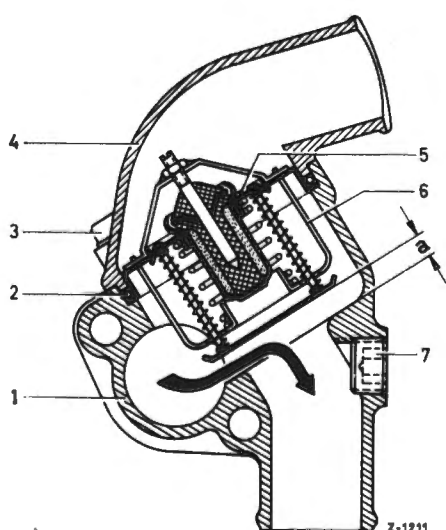

Fig. 20-6/1
On Models 190 c, 220 b, 220 Sb and 220 SEb the cooling water thermostat consists of a cast light-metal housing which is screwed directly to the cylinder head with a gasket, and a thermostat element (6) (wax thermostat). On Model 300 SE the housing of the cooling water thermostat is combined with the cooling water outlet connection. The cooling water thermostat operates with a by-pass control. At cooling water temperatures below $78-79^{\circ}\text{C}$ the cooling water from the cylinder head flows through the open by-pass valve and the by-pass line directly into the water pump (see Fig. 20-6/1). At a cooling water temperature of $78-79^{\circ}\text{C}$ the wax thermostat element by opening the main valve starts to open the flow to the radiator and at the same time to close the by-pass line. When the main valve is fully opened, the cooling water flows from the cylinder head via the cooling water thermostat or through the open main valve to the radiator and only then to the water pump. At this stage the by-pass line is completely closed (see Fig. 20-6/2).